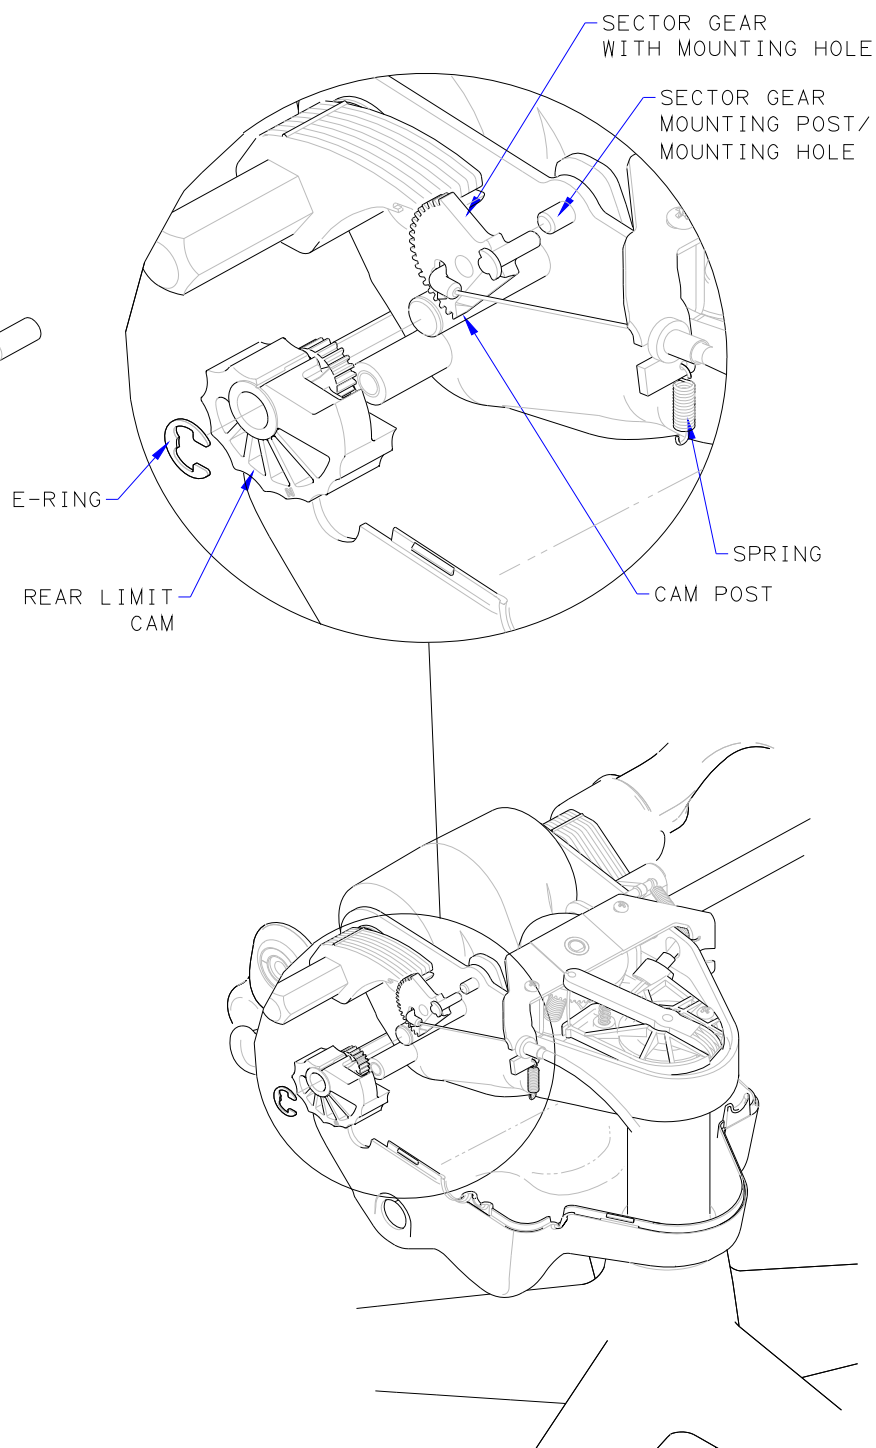

FIGURE 13
11. SLIDE SECTOR GEAR AND ATTACHED TILT LIMITER CABLE ONTO SECTOR GEAR POST/SECTOR GEAR MOUNTING HOLE. ATTACH SPRING TO SECTOR GEAR. SEE FIGURES 13 & 14.